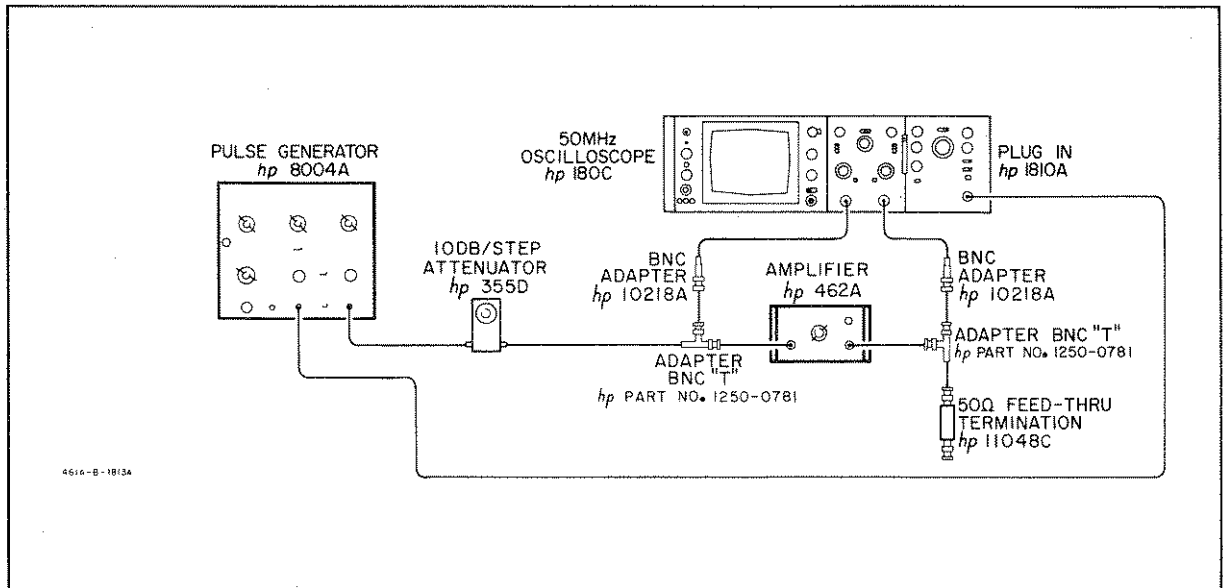

Figure 5-5. Pulse Delay Check Setup
- a. Connect the 462A as shown in Figure 5-5.
- a. With the 462A connected as in Figure 5-5, channel "B", increase the amplitude of the pulse generator until a 1 volt peak-to-peak pulse is observed on the oscilloscope. This verifies the maximum output of the 462A Pulse Amplifier.